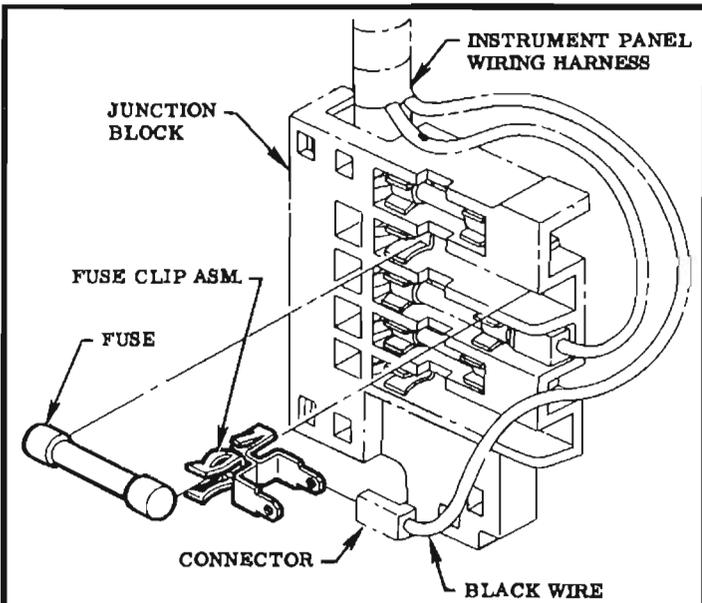

FIG. 3 FUSE & CLIP
STEP 9 PRESS FUSE CLIP ASM. INTO RECEPTACLE ON JUNCTION BLOCK MARKED "RADIO" UNTIL LOCKED IN PLACE, THEN INSERT FUSE INTO CLIPS. SEE FIG. 3.
STEP 10 PLUG CONNECTOR OF EXISTING HARNESS, OR ACCESSORY HARNESS IF USED, INTO JUNCTION BLOCK SLOT. SEE FIG. 3.